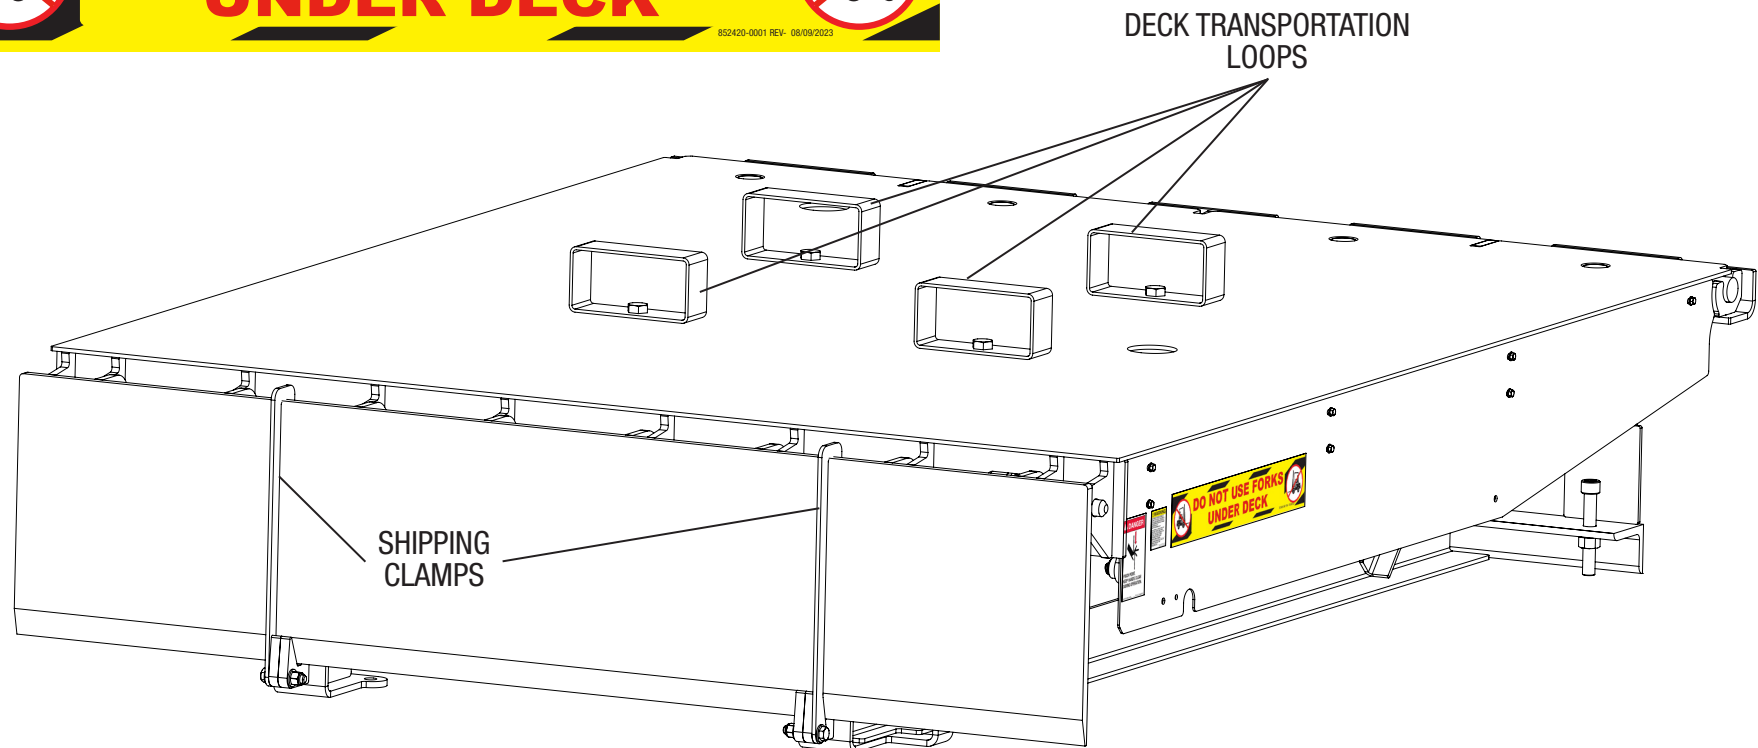

Figure 8
2. Ensure the four deck transportation loops are installed and secure before lifting the leveler from the truck. See **Figure 8**.